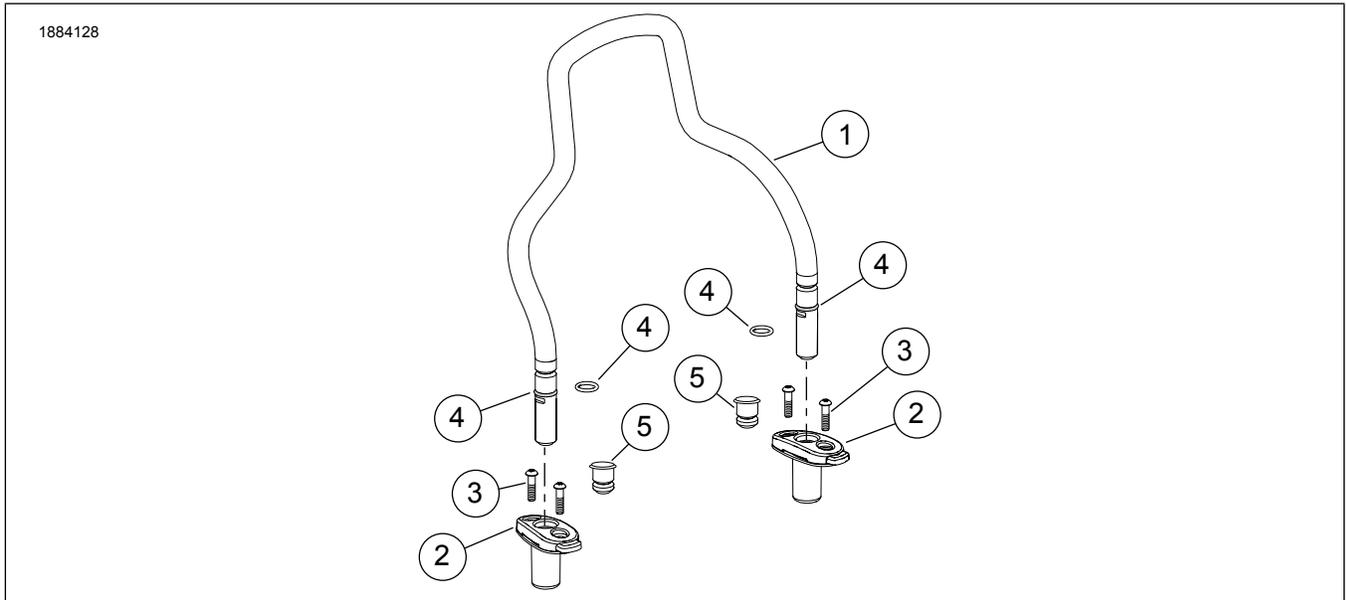
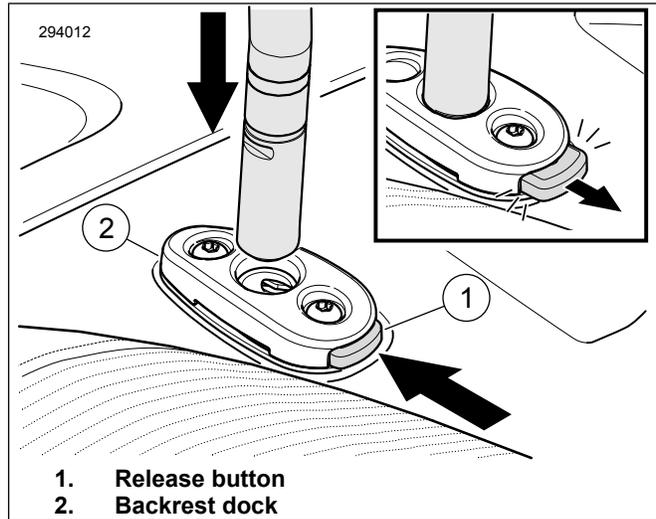

Figure 1. Kit Contents: Quick-Release Sissy Bar Upright Kit
Figure 3. Release Button Locked Position
3. Figure 3 Align and install upright.
- a. Press release button (1) on backrest dock while inserting one leg of upright.
- b. Press release button (1) on other backrest dock while inserting opposite leg of upright.
5. Figure 1 If fit of upright in docks is not snug, remove installed O-rings and replace with larger diameter O-rings. Repeat steps 3 and 4.
1. Figure 1 When upright (1) is removed, install plugs (5).